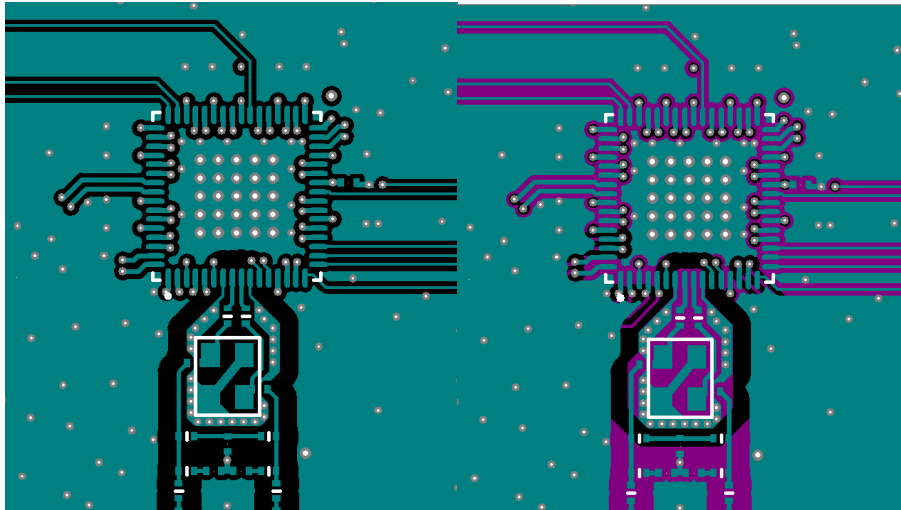
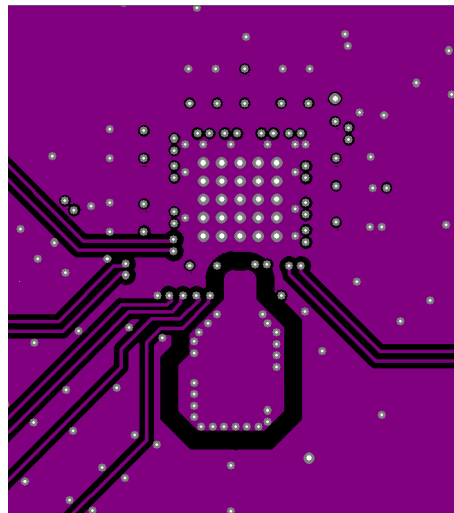

Figure 10.1. 64-pin Si5347 Crystal Layout Recommendations Top Layer (Layer 1)
Figure 10.2. Zoom View Crystal Shield Layer, Below the Top Layer (Layer 2)
Figure 10.1 64-pin Si5347 Crystal Layout Recommendations Top Layer \(Layer 1\) on page 63 shows the top layer layout of the Si5347 device mounted on the top PCB layer. This particular layout was designed to implement either a crystal or an external oscillator as the XAXB reference. The crystal/ oscillator area is outlined with the white box around it. In this case, the top layer is flooded with ground. Note that this layout has a resistor in series with each pin of the crystal. In typical applications, these resistors should be removed.
3. Connect the crystal's GND pins to the DUT's X1 and X2 pins via a local crystal shield placed around and under the crystal. See Figure 10.1 64-pin Si5347 Crystal Layout Recommendations Top Layer \(Layer 1\) on page 63 at the bottom left for an illustration of how to create a crystal shield by placing vias connecting the top layer traces to the shield layer underneath. Note the zoom view of the crystal shield layer on the next layer down is shown in Figure 10.2 Zoom View Crystal Shield Layer, Below the Top Layer \(Layer 2\) on page 63.
Figure 10.2 Zoom View Crystal Shield Layer, Below the Top Layer \(Layer 2\) on page 63 shows the layer that implements the shield underneath the crystal. The shield extends underneath the entire crystal and the X1 and X2 pins. This layer also has the clock input pins. The clock input pins go to layer 2 using vias to avoid crosstalk. As soon as the clock inputs are on layer 2 they have a ground shield above below and on the sides for protection.